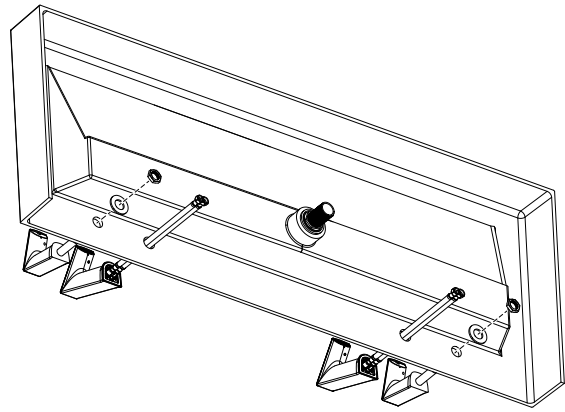

Figure 12
5. Install Faucet and Soap spouts, (Figure 12) onto sink according to manufacturer's instructions provided with component.